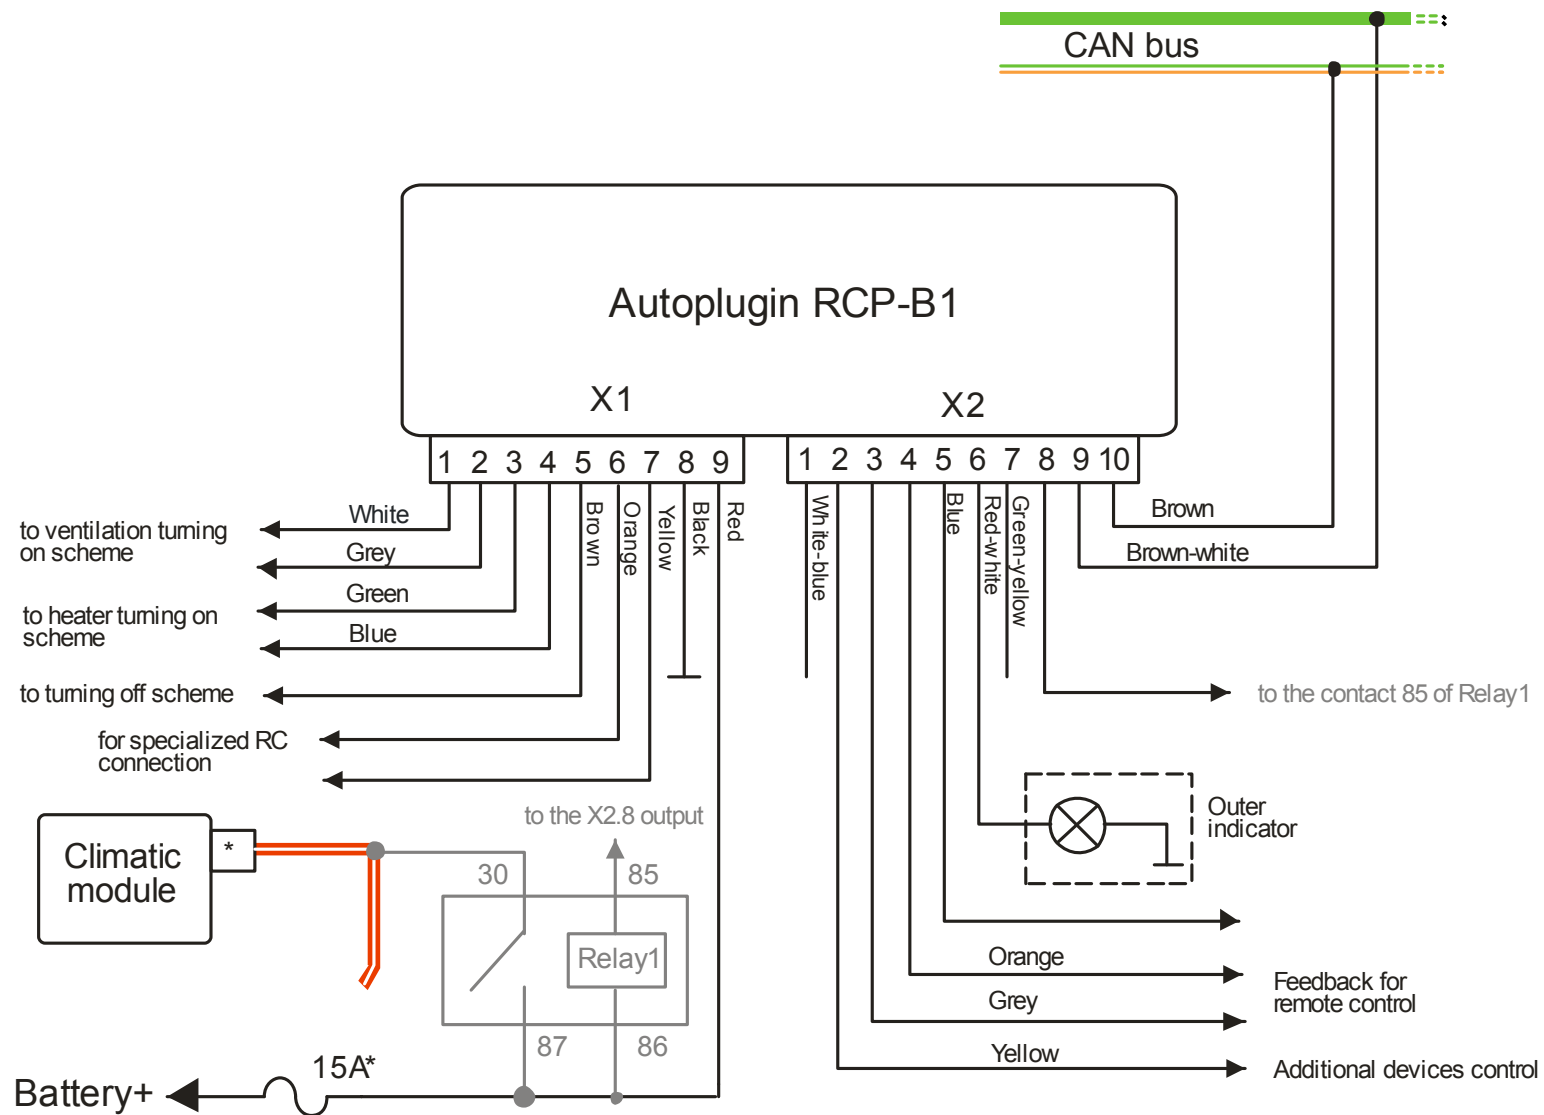

Figure 1
• General connection scheme (fig.1, page 2)
- Connect the module to the wiring according to the scheme at the fig.1. Connect the module to the receiver unit of remote control, according to the schemes at the figures 3-9. Make task specific connections if necessary.